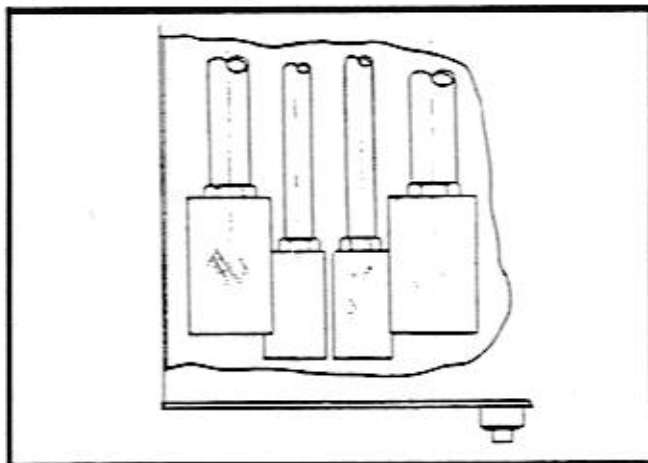

Figure 13-1. Suction Strainers
3. Each strainer is at the end of a pipe. Remove the pipe and strainer as an assembly. If the strainer is damaged, replace it. Refer to Figure 13-1.